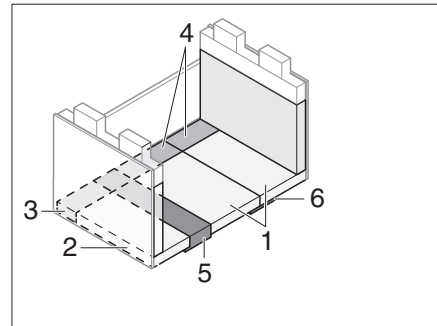

Fig. 199 After conversion
- Lay on the seat, backrest and additional cushions as shown in Fig. 199.
- ▷ In order to achieve higher resting comfort, the cushion insert can be removed from the back cushion (Fig. 199,2).